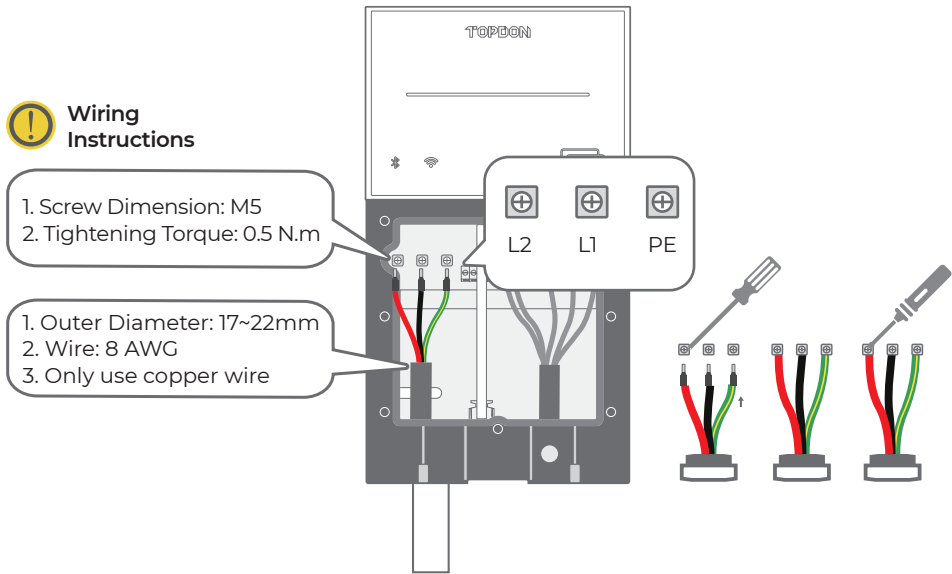

Fig. 4-16
7. Loosen the five terminal screws with a Phillips screwdriver and fully insert each wire connector into its correct terminal block. Use a torque screwdriver to tighten the terminal screws with a torque of 0.5N.m. (See Fig. 4-16)